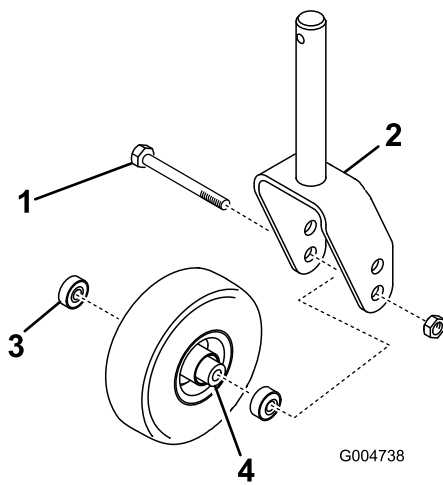

Figure 28
1. Remove the locknut from the bolt holding the castor wheel assembly between the castor fork (Figure 28). Grasp the castor wheel and slide the bolt out of the fork or pivot arm.
- Remove the bearing from the wheel hub and allow the bearing spacer to fall out (Figure 28). Remove the bearing from the opposite side of the wheel hub.